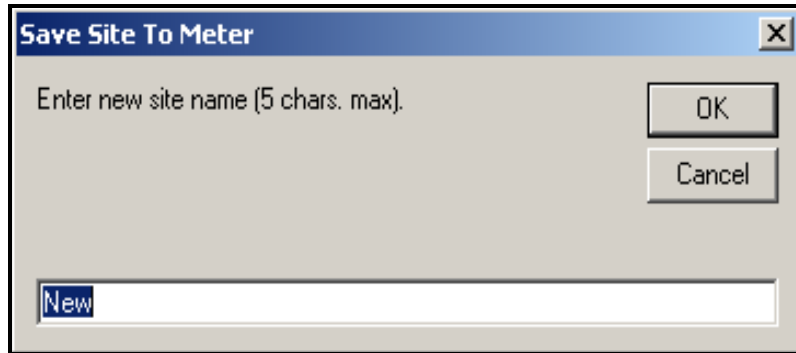

Figure 32: Site Name Entry Window
2. A window opens similar to Figure 32. Enter the desired name, and click [OK].